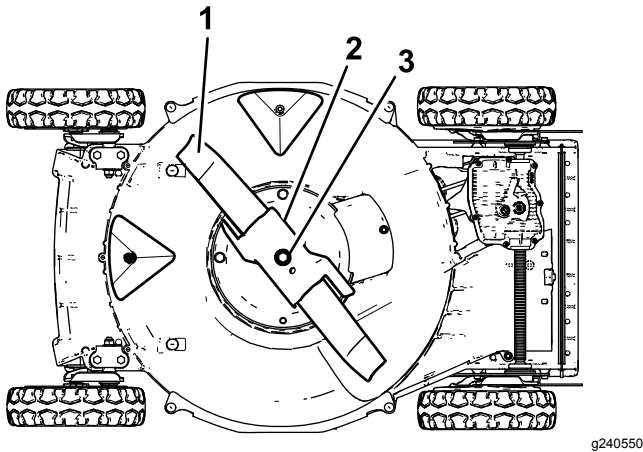

Figure 26
4. Tip the machine onto its **right** side (air cleaner up) as shown in Figure 26.